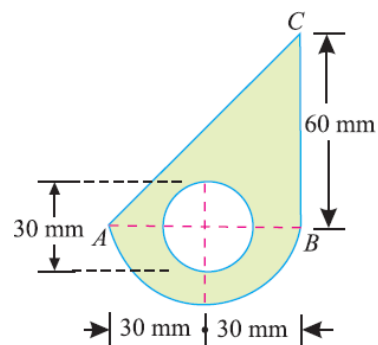

Fig.21
1. Find the moment of inertia of the lamina with a circular hole of 30 mm diameter about the axis AB as shown in Fig.21 [L1] [6M]